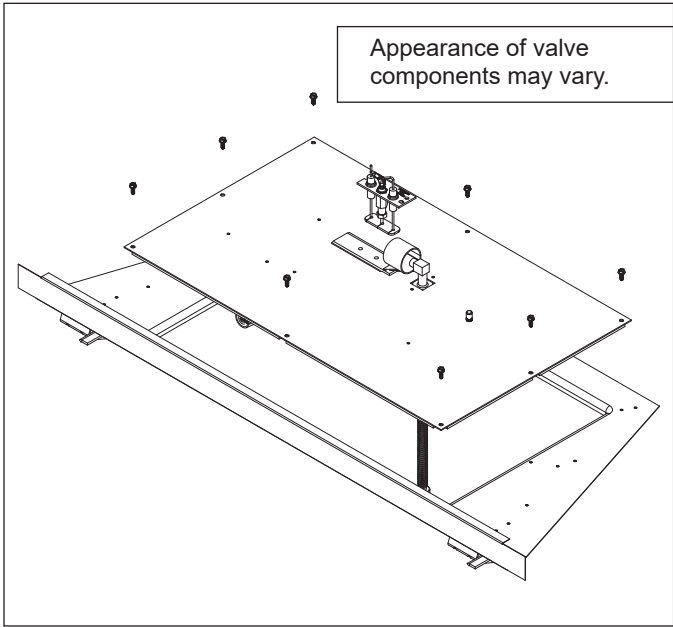

Figure 4.7 Valve Assembly Removal
6. See Figure 4.7 for valve assembly removal.